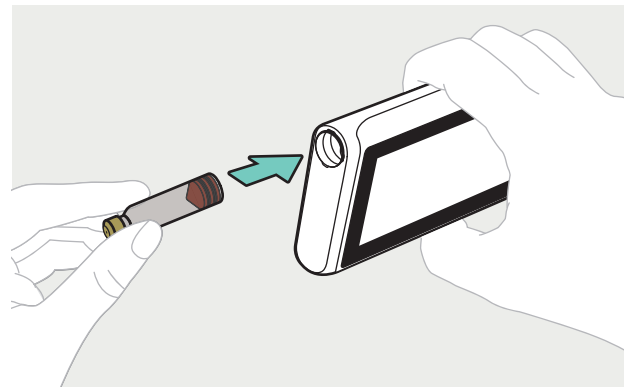

Figure 61
- Insert the cartridge into the insulin chamber (see Figure 61).